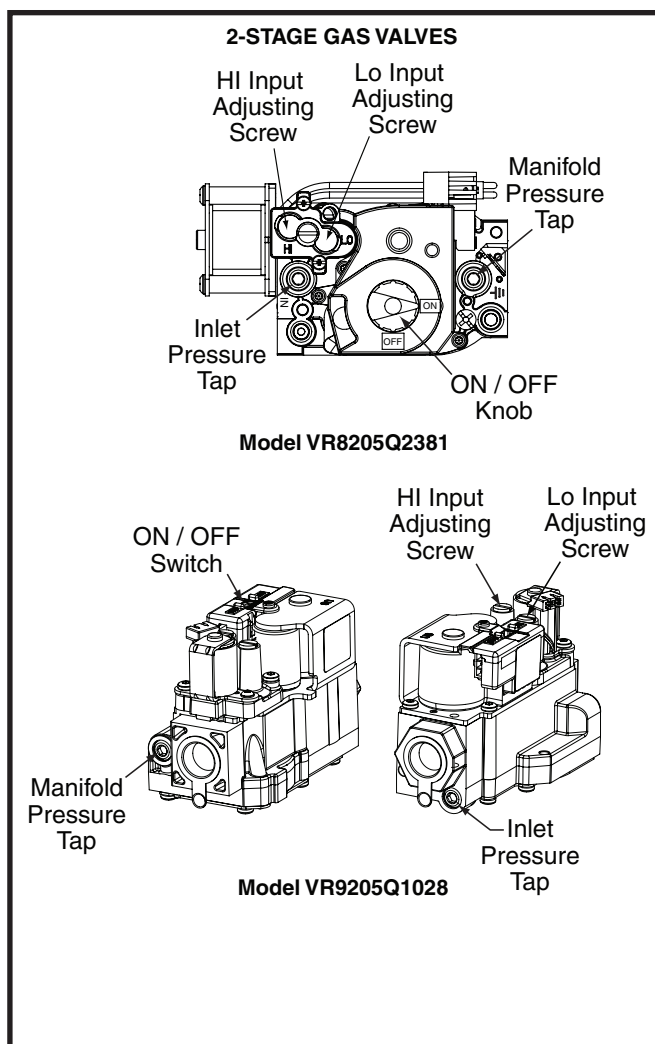

Figure 20. HI & LO Input Adjusting Screws
7. Remove the regulator capscrew from the INLET side of the regulator. See Figure 20 \(page 23\).